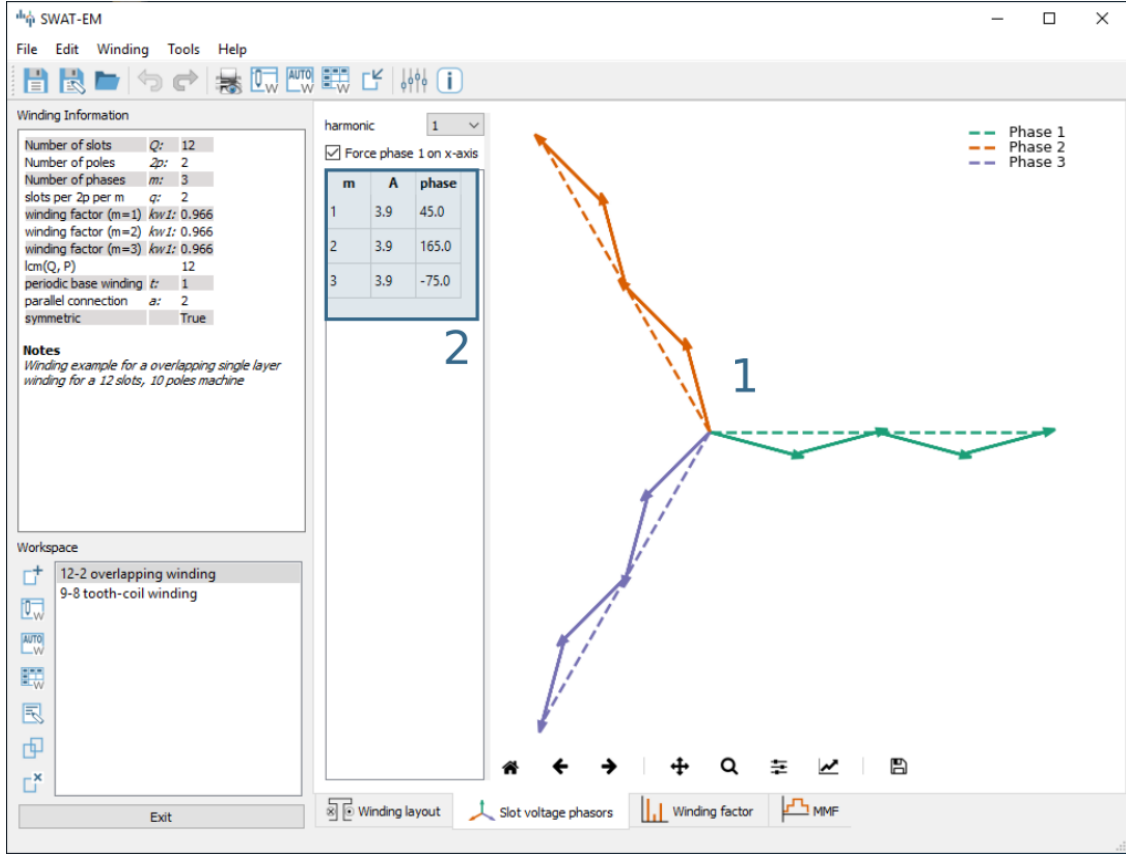

Figure 3.2: Phasors plot
All phasors of a phase are getting grouped a vectorial summed up which is shown as (1) in figure 3.2. The dotted line represents the vectorial sum. The amplitude and the phase of this is shown in (2). Options:
It can be seen in figure 3.2 that the winding factor gets the maximum value of 1 if all phasors of a phase have the same phase angle. Typically the winding factor is specified with a sign. This indicates the direction of the magnetic field wave, that is generated by the winding in the airgap. SWAT-EM determines the sign by generating the phasors plot